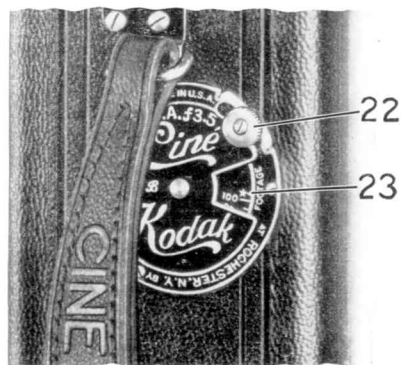
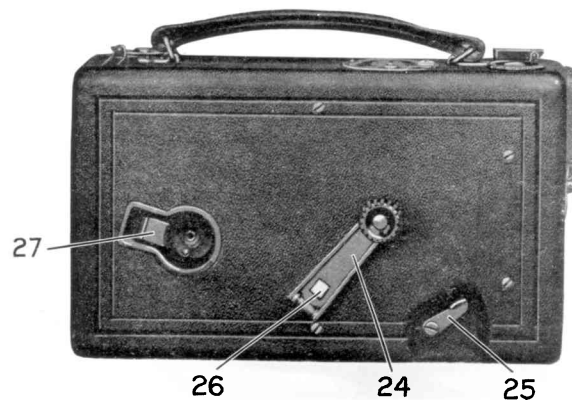

Fig. 14.
Fig. 15.
23 Pointer	Indicates how much film remains in camera. Fig. 14, page 18.
24 Winding Handle	Used for winding motor, Fig. 15, page 19.
25 Exposure Lever	Controls motor, turns it on or off, Fig. 15, page 19.
26 Shaft	Connects winding handle with motor, Fig. 15, page 19.
27 Spring	Keeps winding handle in place when not in use, Fig. 15, page 19.
Give the winding handle 24, Fig. 15, page 19, a few turns, and press down the exposure lever 25 to operate the Ciné-Kodak, see pages 19 and 20. Allow the motor to run for only a *second or two*, and watch the leader, closely. While winding the spring and operating the camera with the cover removed, be careful to hold the camera so that the take-up spool will not come off the spindle. If the leader is running properly, stop the motor and immediately replace the cover and fasten it by pushing the catch in the center of the cover to the side marked LOCK.
The footage indicator, Fig. 14, automatically gives the number of feet of unexposed film there are in the camera. It must be adjusted for each roll of film.
To wind the motor of the Ciné-Kodak, first press the spring 27, this releases the winding handle 24 on the side of the camera. Fit the opening in the handle over the square end of shaft 26, as shown in Fig. 15, and wind up the spring by turning the handle 24 to the right. Give
it about 30 turns. Before winding the spring, be sure that the exposure lever 25 is *up*, in the position shown in Fig. 15, page 19.
To start the motor after the spring is wound, press the exposure lever 25, Fig. 15, page 19, about half way. To stop the motor release the pressure. Let the motor run until the 100 mark on the footage indicator (50 if a fifty-foot roll of film is used) moves to the pointer 23, Fig. 14, page 18. The camera is now ready for making pictures.
When making an exposure, hold the camera level, as shown in Figs. 16 and 17, pages 21 and 22, and frame the subject through the Sight Finder, or in the Reflecting Finder, then press the exposure lever 25, Fig. 15, page 19.
**Caution:** Before removing the cover to unload the camera, after exposing the entire length of film, run the motor until the pointer 23 on the footage indicator (Fig. 14, page 18) is at the line marked with a dot, following the scale. This is necessary so that the exposed film on the take-up spool will be covered by the protecting end. This end is similar to the leader at the other end of the film and enables the camera to be unloaded in daylight. Do not run the motor after all of the film and protecting end are on the take-up spool.